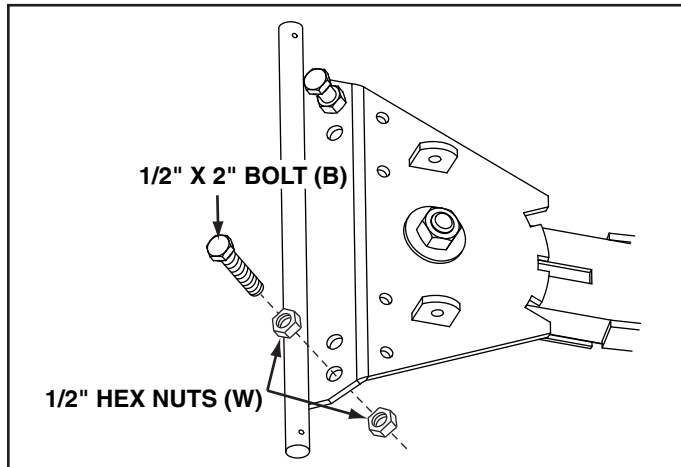

FIGURE 8
STEP 8: (SEE FIGURE 8)
- Install a 1/2" x 2" hex bolt (B) and two 1/2" hex nuts (W) in the outer hole in each side of the pivot plate. Temporarily adjust the hex nuts so that both bolt heads extend about an inch and a half above the pivot plate.